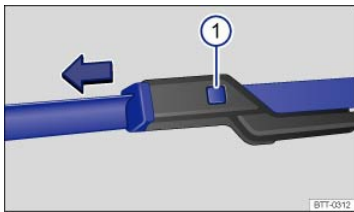

Fig. 176 Changing the windshield wiper blades.
- Press and hold the release button ⇒ Fig. 176 .